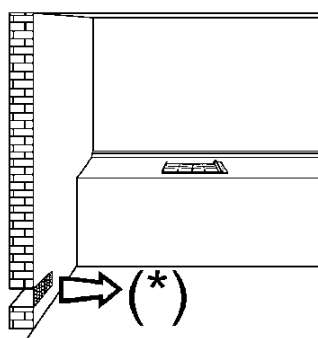
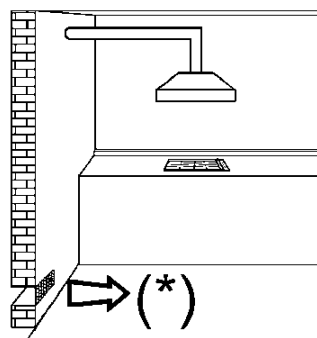
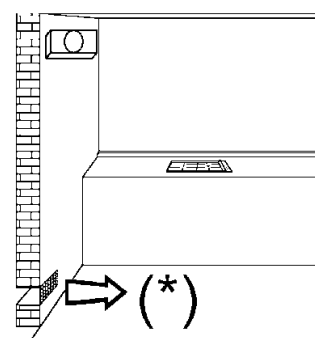

FIG. 1
FIG. 2
FIG. 3
- use of a gas cooking appliance produces heat and moisture in the room in which it is installed. The room must therefore be well ventilated by keeping the natural air vents clear (fig. 1) and by activating the mechanical aeration device (suction hood or electric fan fig. 2 and fig. 3).
directly through permanent openings made in the walls of the room to be ventilated, which lead outside and have a minimum section of 100 cm2 (see fig. 1). These openings must be made so that they cannot be blocked.
Gas hobs must always eliminate the products of combustion through hoods connected to chimneys, flues or directly outside (see fig. 2). If it is not possible to fit a hood, a fan installed in a window or an outside wall can be used simultaneously with the appliance (see fig. 3), as long as the provisions concerning ventilation listed in the standards in force are strictly observed.